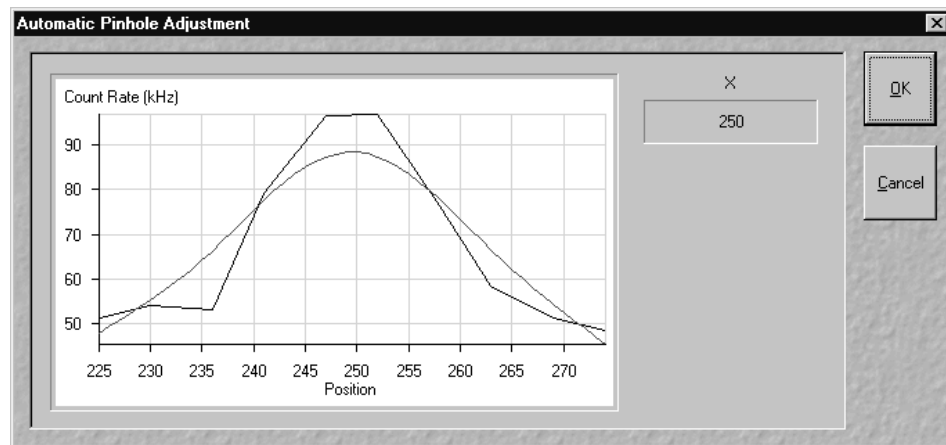

Fig. 5-206 Automatic Pinhole Adjustment
- The **Automatic Pinhole Adjustment** window will appear (Fig. 5-206). It is possible to exit the process using the **Cancel** button. When the process is finished, quit with **OK**.